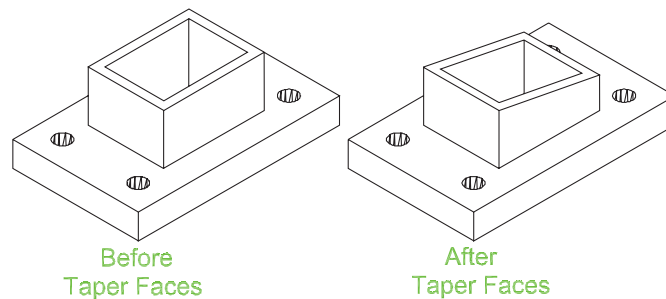

Fig. 18.10 Fifth example – **Taper faces** tool
Fifth example – **Taper faces** tool (Fig. 18.10)
- Construct the 3D model as in the left-hand drawing of Fig. 18.10. Place in **ViewCube/Isometric**.
(Fig. 18.10).